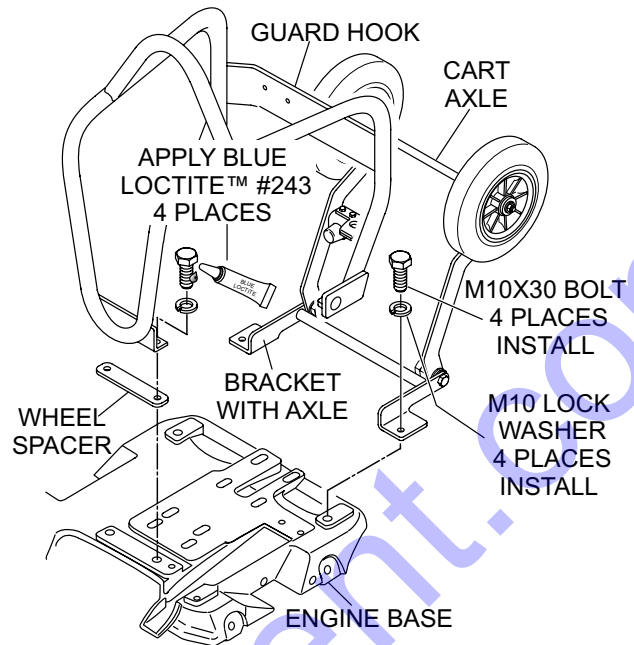

Figure 3. Wheel Spacer/Bracket Installation
1. Place wheel spacer (item 10) onto engine base. Reference Figure 3.
2. Next, place wheel bracket (item 30) onto engine base,
4. Using a 17 mm socket, secure wheel spacer to engine base using the two supplied M10X30 bolts (item 28) and M10 lock washers (item 29). Apply Blue Loctite™ #243 to bolt threads. Torque bolts to 54.2~57.9 ft-lbf (750~800 Kgf-cm).